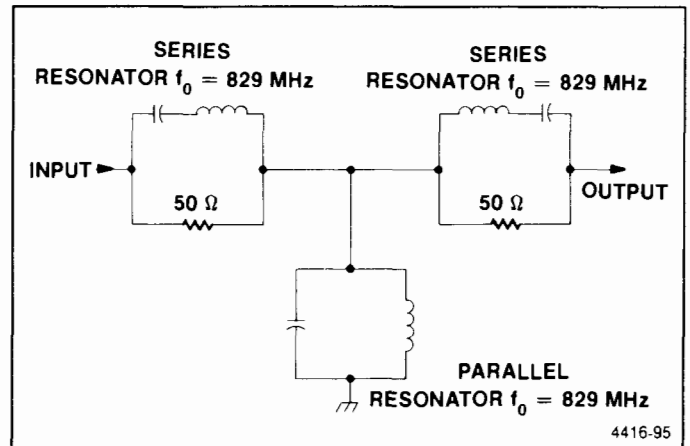

Figure 7-3. Simplified diplexer diagram.
**829 MHz Diplexer.** The 829 MHz Diplexer (A23A4) passes signals at 829 MHz with approximately 1 dB maximum attenuation and 200 MHz pass-band. Frequencies outside the pass-band but between about 50 kHz to 2 GHz are terminated in 50Ω loads with a match of at least 10 dB. Figure 7-3 shows a simplified schematic of the diplexer.
As shown in the schematic diagram, the diplexer contains components not shown in Figure 7-3. The 50Ω terminations are actually two pairs of 100Ω resistors, R1014-R1015 and R1011-R1012, connected in parallel to reduce load inductance. Small capacitors, C1010 and C1013, are connected across each load to improve impedance match at frequencies above the pass-band. The inductor in the parallel resonator is a printed length of transmission line that is tapped to establish the correct bandwidth. One end of this inductor is grounded through four capacitors so that dc bias from the 1st Local Oscillator Driver can be introduced to the 1st Mixer (A12) through this diplexer. Several capacitors are used in parallel to minimize inductance and circuit Q degradation. A low-pass filter is included in the bias line to minimize any noise from the 1st LO driver.